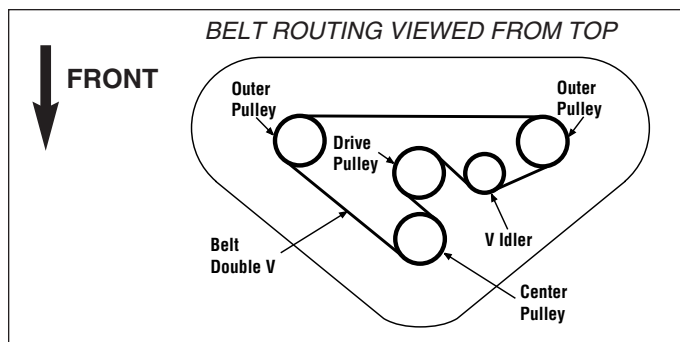

Figure 54. 48" Mower Belt Routing
7. Install the new drive belt as shown in the diagram in Figure 54.